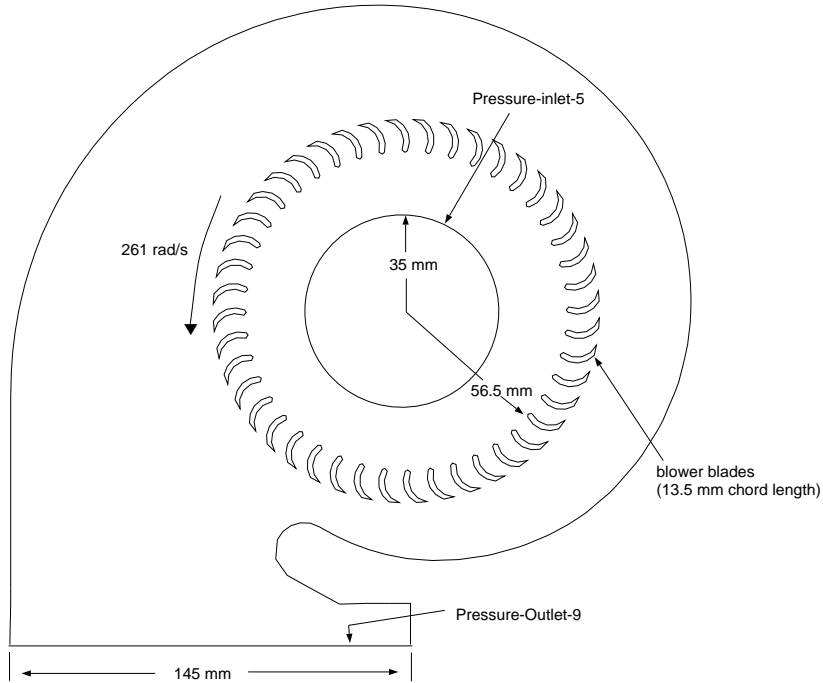

Figure 8.1: Schematic of the Problem
Problem Description: This problem considers a 2D section of a generic centrifugal blower. A schematic of the problem is shown in Figure 8.1. The blower consists of 32 blades, each with a chord length of 13.5 mm. The blades are located approximately 56.5 mm (measured from the leading edge) from the center of rotation. The radius of the outer wall varies logarithmically from 80 mm to 146.5 mm. The total pressure at the inlet is defined to be 200 Pa and the flow discharges to ambient conditions (static pressure = 0 Pa). The blades are rotating with an angular velocity of 261 rad/s. The flow is assumed to be turbulent.
4. Set the following conditions (see Figure 8.1) for the flow inlet (pressure-inlet-5).